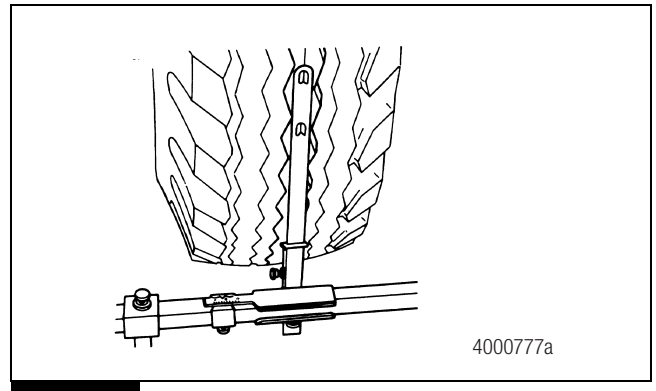

Figure 6.28
6. Place the trammel bar at the rear of the tires. Adjust the pointer to line up with the scribe lines on the tires. Lock the pointers in place. The sliding scale still must be set on ZERO. Figure 6.28.